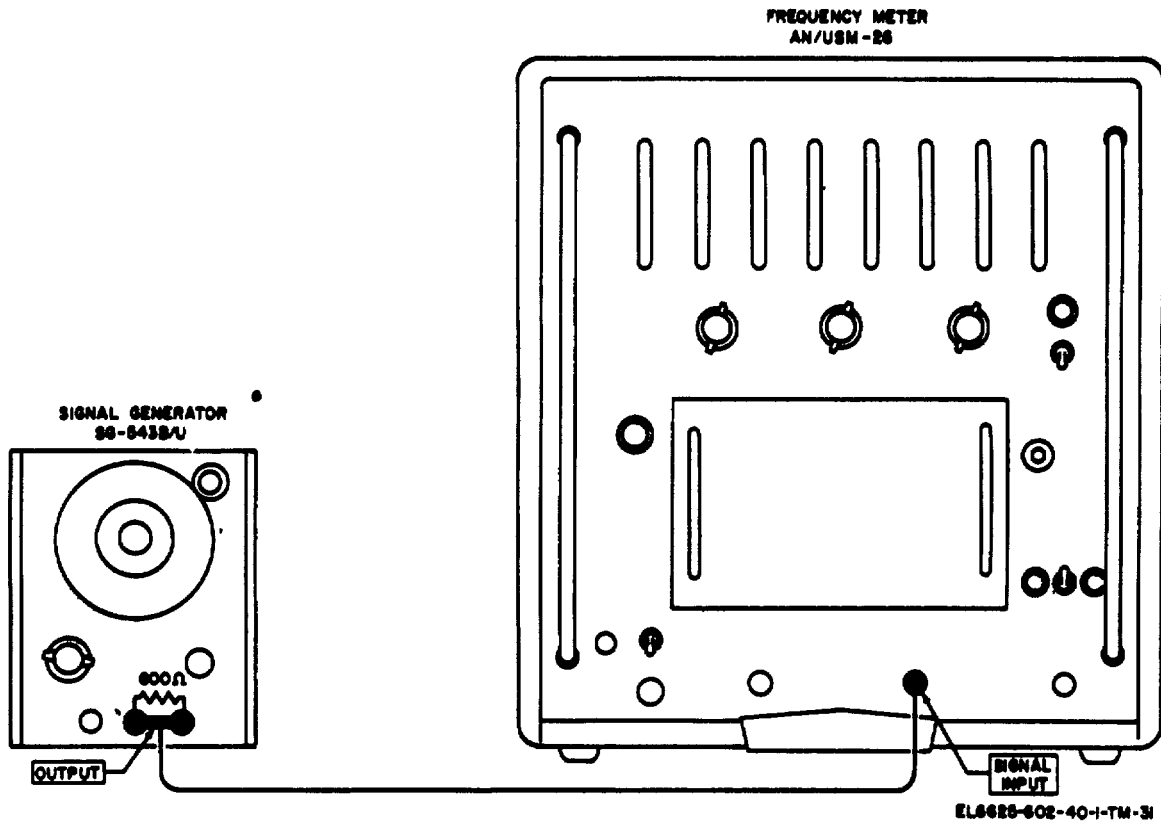

Figure 5-1. Generator, Signal SG-543B/U dial accuracy test.
- b. Test Connections and Conditions. Connect equipment as shown in figure 5-1.